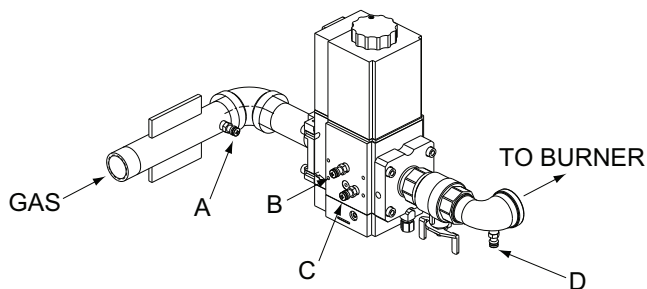

Fig. 47: Gas Pressure Measurement Locations
2. Attach (1) 12" scale manometer to an upstream bleedle valve on the gas supply pipe to the heater (Measure point "A" in Fig. 47).
3. Attach (1) 24" scale manometer to the manifold pressure tap located on the elbow downstream of the valve (Measure point "D" in Fig. 47).
4. Attach (1) 12" scale manometer near the fan-proving switch. Pull black cap from air pressure switch tee and connect the manometer. NOTE: Retain caps for reinstallation later.
- Check manifold gas pressure at the gas valve outlet pressure tap (connection "D" in Fig. 47). This pressure should read per the values in Table V for natural and propane gas.